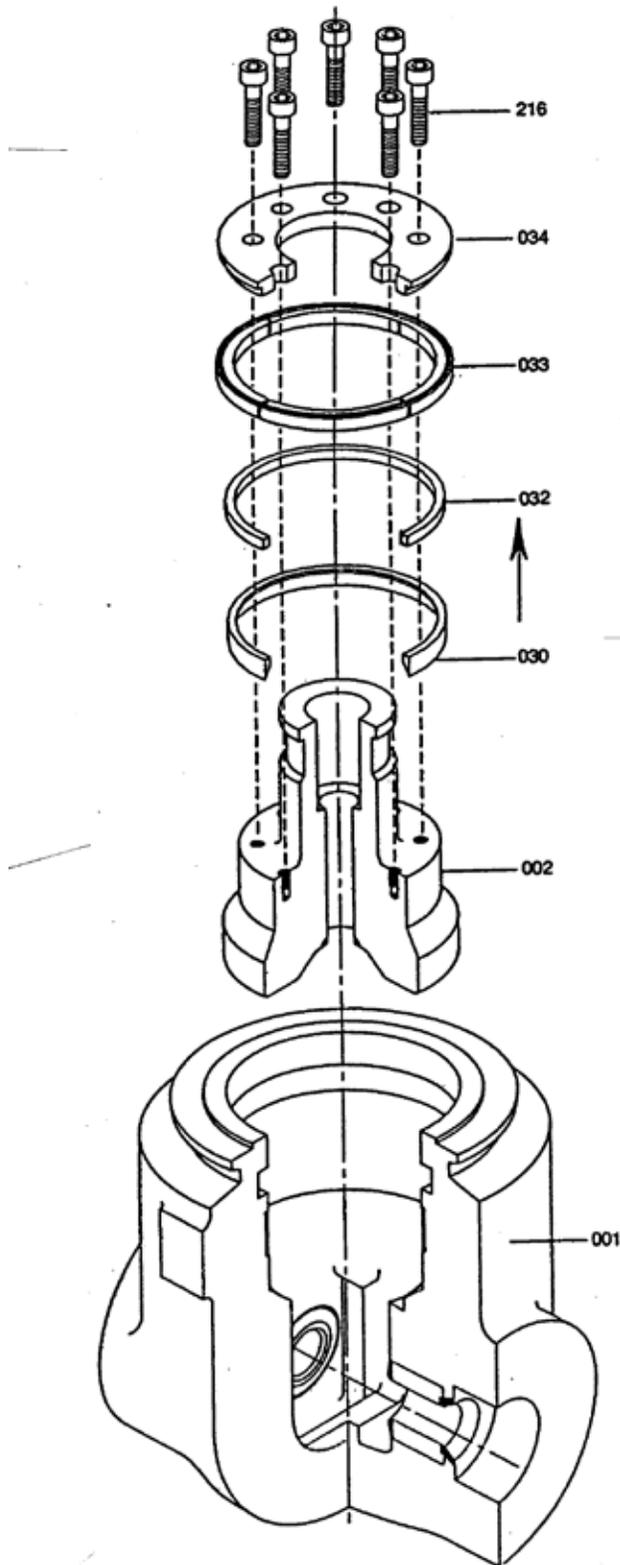

Figure 16
20 6.3.3 The bonnet is held in the raised position by capscrews (216) that draw it up against a bonnet retainer (034). To disassemble, remove the capscrews and then lift of the bonnet retainer (Fig. 16).